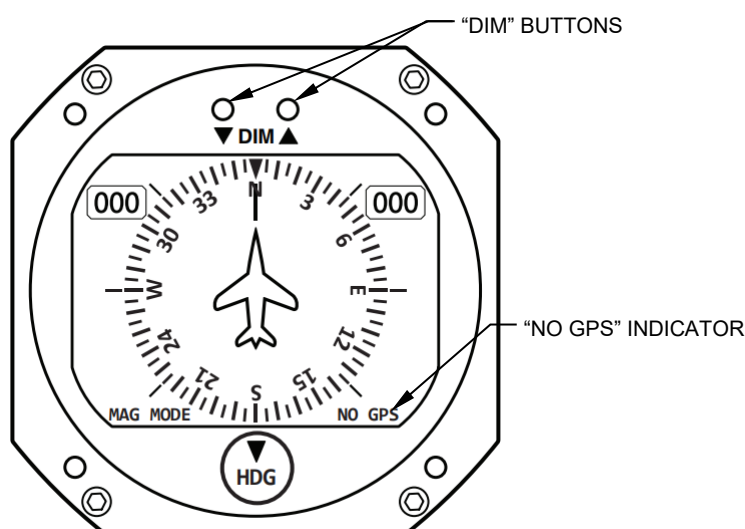

Figure 12
24. Move the aircraft outside to allow the Heading Indicator(s) to acquire a GPS signal. The "NO GPS" indicator should extinguish once the signal is established. Reference Figure 12.